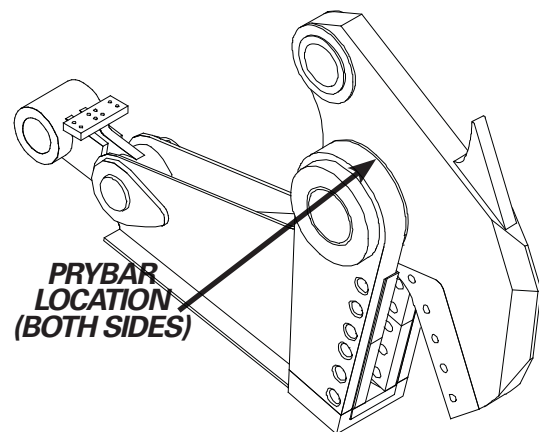

FIGURE 7-15
2. Use a pry bar between the upper and lower jaws in the main pivot area on each side to see if the upper can be moved back and forth in relation to the lower jaw. See Figure 7-15.